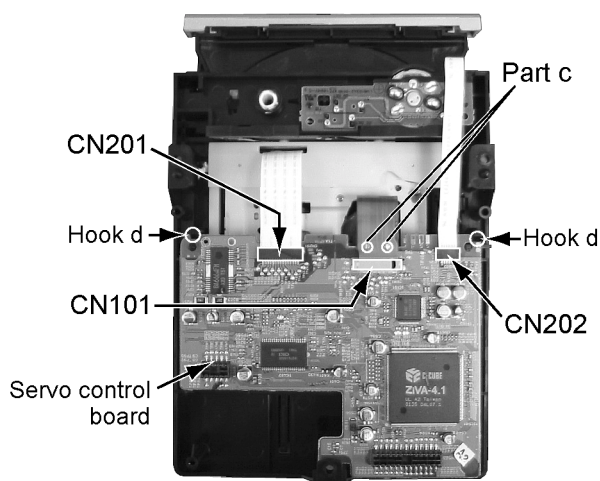

Fig.6
2.1.4 Removing the servo control board (see Fig.6)